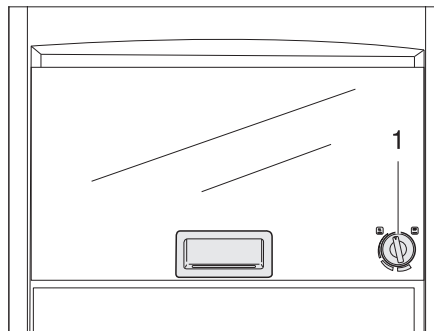

Fig. 344 Gas oven (Dometic)
- Gently press the control knob (Fig. 344,1) and turn left to any position.
- Turn the control knob (Fig. 344,1) to "O". The flame fades.